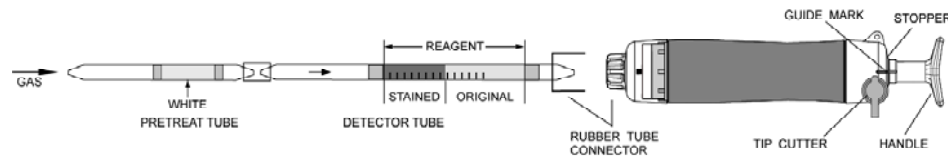

Fig.1
- ① Break both ends of detector tube and pretreat tube, and connect each end of the detector tube and pretreat tube with rubber tube connector as shown in Fig.1.
- ② Insert the detector tube into aspirating pump securely as shown in Fig.1 (Arrow mark shall point to the pump.)
- ③ Align the guide marks on the shaft and stopper of the aspirating pump.
- ④ Pull the pump handle at full stroke until it locks and wait for 1.5 minutes or until the completion of sampling is confirmed with the flow indicator of the pump (See descriptions about the flow indicator in the instructions of the pump).
- ⑤ Turn the handle right or left 1/4 and push it back fully without removing the detector tube from the connector. Then repeat step ④ twice.
- ⑥ On completion of sampling, read the scale at the maximum point of the stained layer.